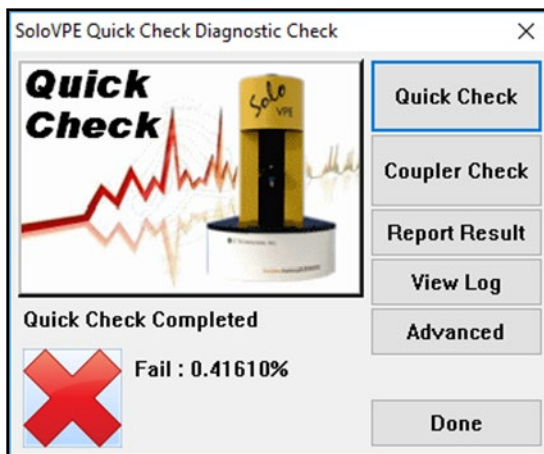

Figure 40. Failed Quick Check diagnostic.
7. Upon completion, the Quick Check window will display the disposition of the SoloVPE System, which can be Fail or Pass, as depicted in Figures 40 and 41.